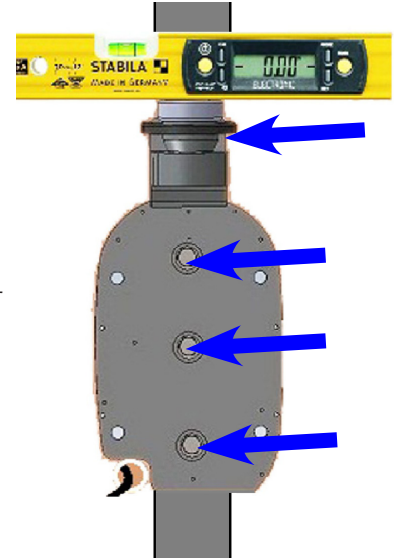

Figure 10: Check level and tighten lag screws.
- Using a level indicator adjust the Base Unit such that its top surface is leveled and tighten all the bottom three screws first using 17mm box spanner as shown in Figure 10 . Using 17mm open end spanner tighten the top screw. Reconfirm the level using level gauge.